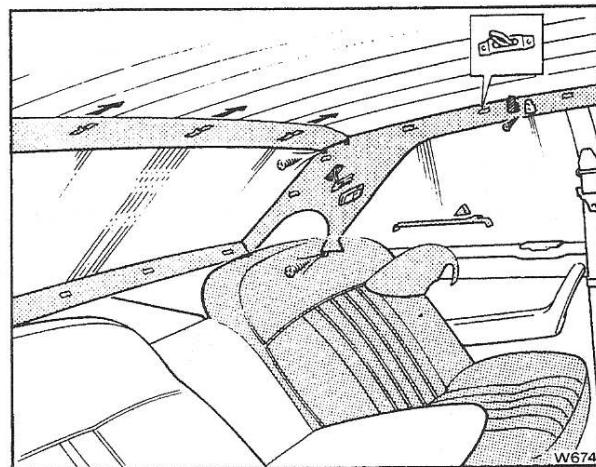

Fig. S155 Rear window interior trim (Camargue)
trimmed filler pieces to the body; remove the filler pieces (see Fig. S155).
10. Remove the four screws securing the sides of the trim panel situated above the window (see Fig. S155). Pull the panel forwards to detach the spring clips securing it to the roof; remove the panel.
11. Remove the trim panel situated below the window by pulling the panel towards the front of the car until the spring clips are released; remove the panel (see Fig. S155).